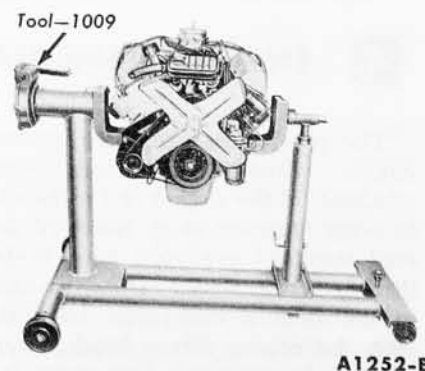

FIG. 17—Engine Work Stand
22. Lift the engine out of the engine compartment and install it on a work stand (Fig. 17).